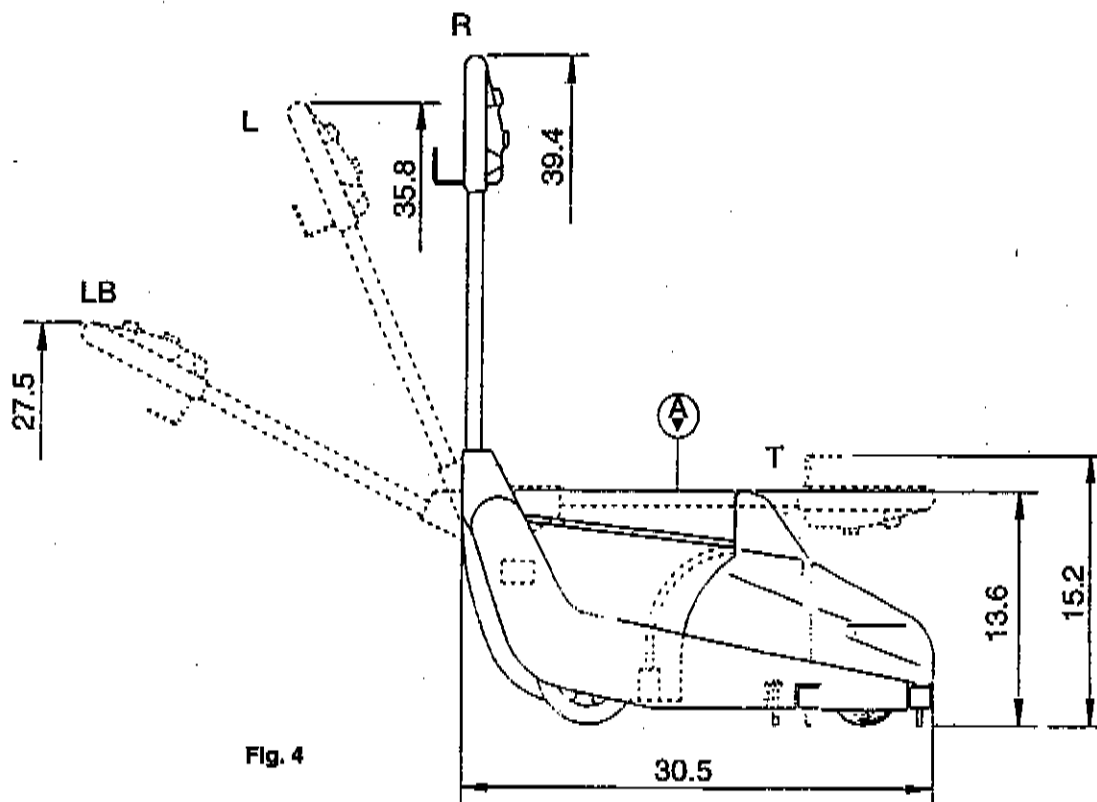

Fig. 4
- Your machine should have the handle in T position (see FIG. 4).
- Grip both arms of the handle at the middle (A) (see FIG. 4).
- Push the handle to position R (FIG. 4).
- The machine should have the handle in R position (see FIG.4)
To release, turn the lever (3 FIG. 3) counter-clockwise as far as it will go; this operation releases the two articulated joints simultaneously. The handle can adopt the following positions (FIG.4):
- 1) Set the handle in R position (FIG. 4).